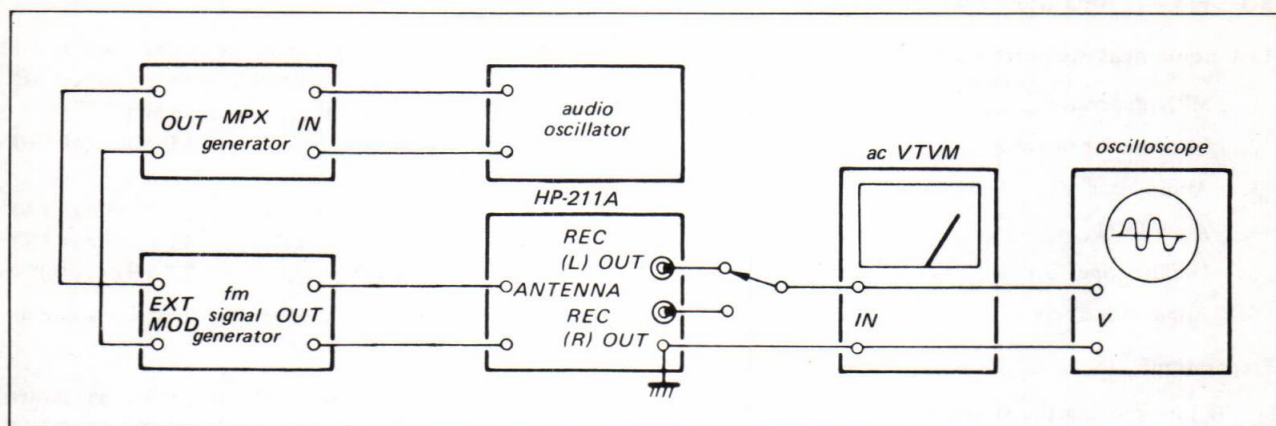

Fig. 3-11. Fm stereo separation adjustment test setup
1. Connect the equipment as shown in Fig. 3-11. Set the fm signal-generator's control as follows:
- (a) With the equipment connected as shown in Fig. 3-11 set the MPX stereo generator controls as follows.